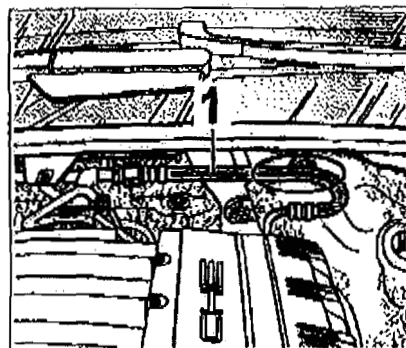

Figure 1
- 3 Check the top of the fuel line ⇒ Figure 1 - 1 - in the area before the bend ⇒ Figure 1 - circle - for visible signs of damage (chafing).